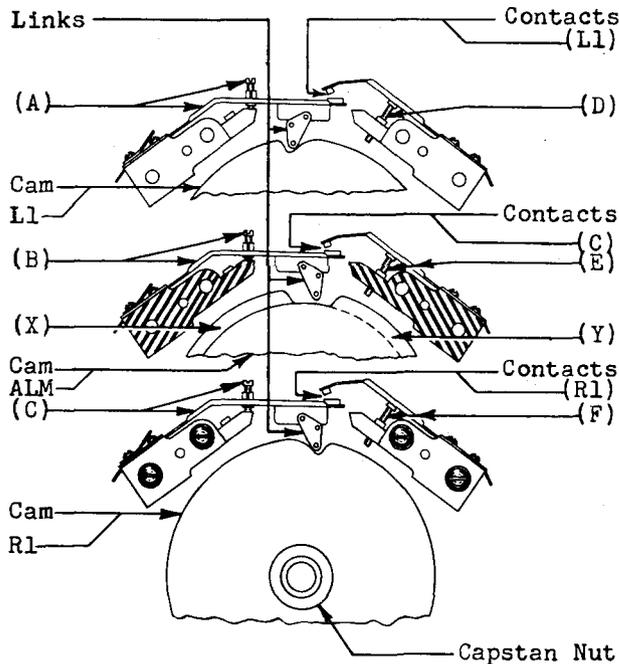

Fig. 8 - Retreating and Alarm Cams and Contacts
‡2.13 Retreating and Alarm Cam Contacts: Fig. 8
‡2.14 Retreating Cam R1: Fig. 8 - With the PILOT WIRE dial set so that a division mark is opposite the correspondingly numbered division mark on the TRS MOT dial, a movement of the slide wire shaft which increases the reading on the PILOT WIRE dial 0.5 division shall cause contacts (R1) to close. Gauge by operation of relay R.
‡2.15 Retreating Cam Ll: Fig. 8 - With the PILOT WIRE dial set so that a division mark is opposite the correspondingly numbered division mark on the TRS MOT dial, a movement of the slide wire shaft which decreases the reading on the PILOT WIRE dial 0.7 division shall cause contacts (Ll) to close. Gauge by operation of relay L.
‡2.16 Out of Step Cam ALM: Fig. 8 - With the PILOT WIRE dial set so that a division mark is opposite the correspondingly numbered division mark on the TRS MOT dial, the cam ALM (alarm) cut-out shall be of such extent that contacts (C) will close when a movement of the slide wire shaft has increased or decreased the PILOT WIRE dial reading 1.5 divisions.